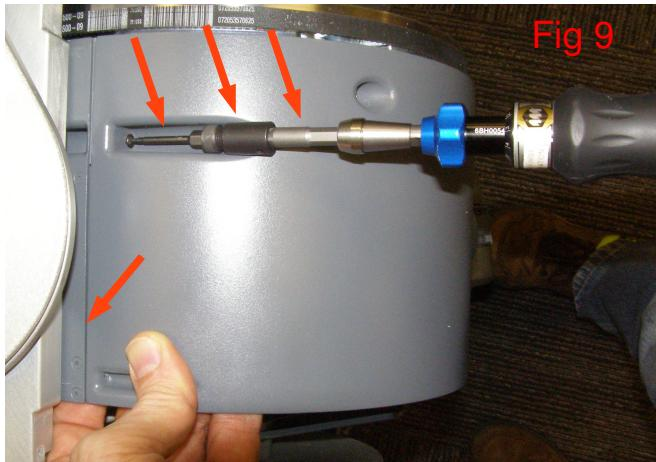

Fig 9
2. Hold the two covers in alignment and together with your hand. Using Loctite 248, combine the 2mm bit with the hex 1/4 adapter and the 1/4 male to 1/4 hex adapter, install the Panhead screw and torque to 0.34Nm using the Small torque driver. (Fig 9)